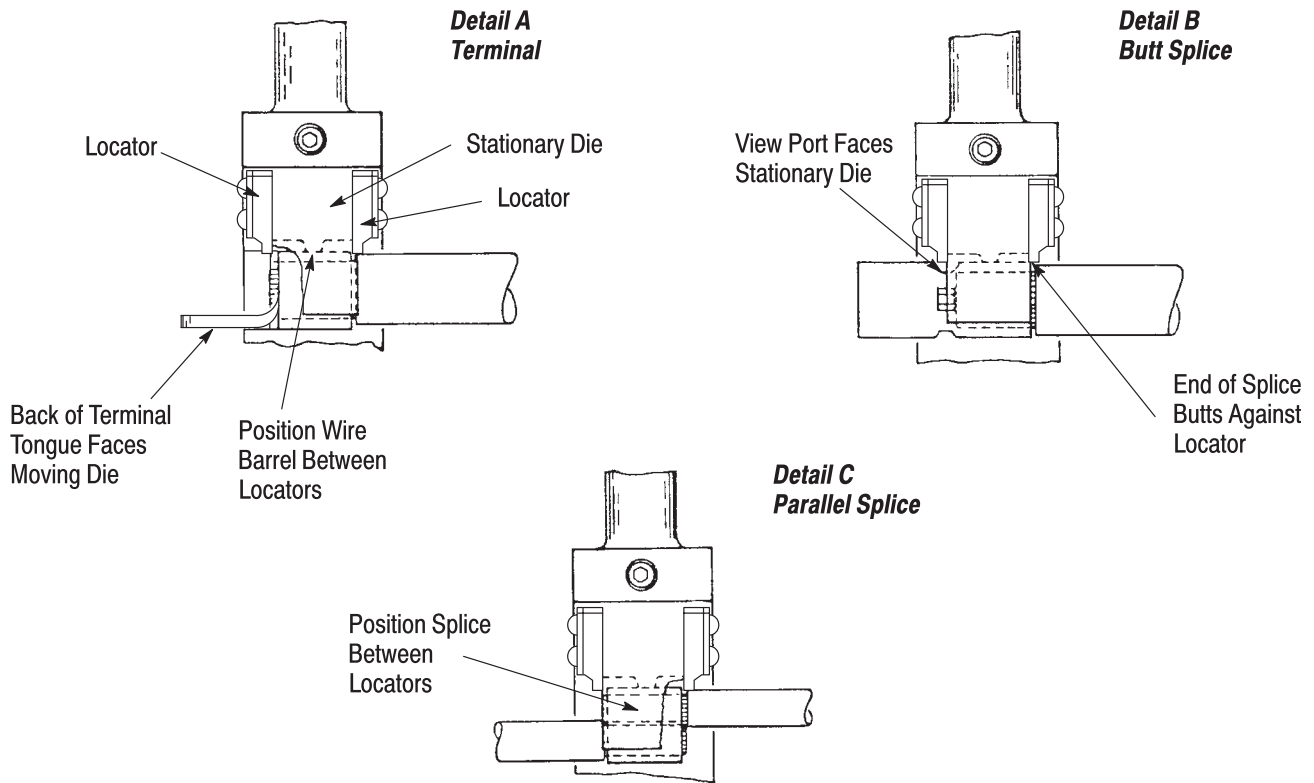

Figure 3
- Position terminal wire barrel between locators of stationary die as shown in Figure 3, Detail A. Back of terminal tongue must face moving die.
- Insert stripped wire all the way into terminal wire barrel. End of wire must be flush with or extend beyond end of wire barrel as shown in Figure 3, Detail A.
- Position butt splice in stationary die so that end of splice butts against locator as shown in Figure 3, Detail B. View port in splice faces stationary die.
1. Position parallel splice between locators as shown in Figure 3, Detail C.